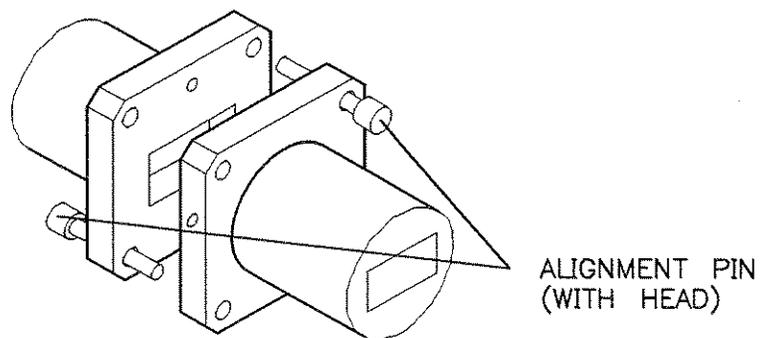

Figure 4-4.
1. Place an alignment pin (with head) in the corner hole of one flange. Place a second alignment pin in the diagonal corner hole of the second flange (Figure 4-4).